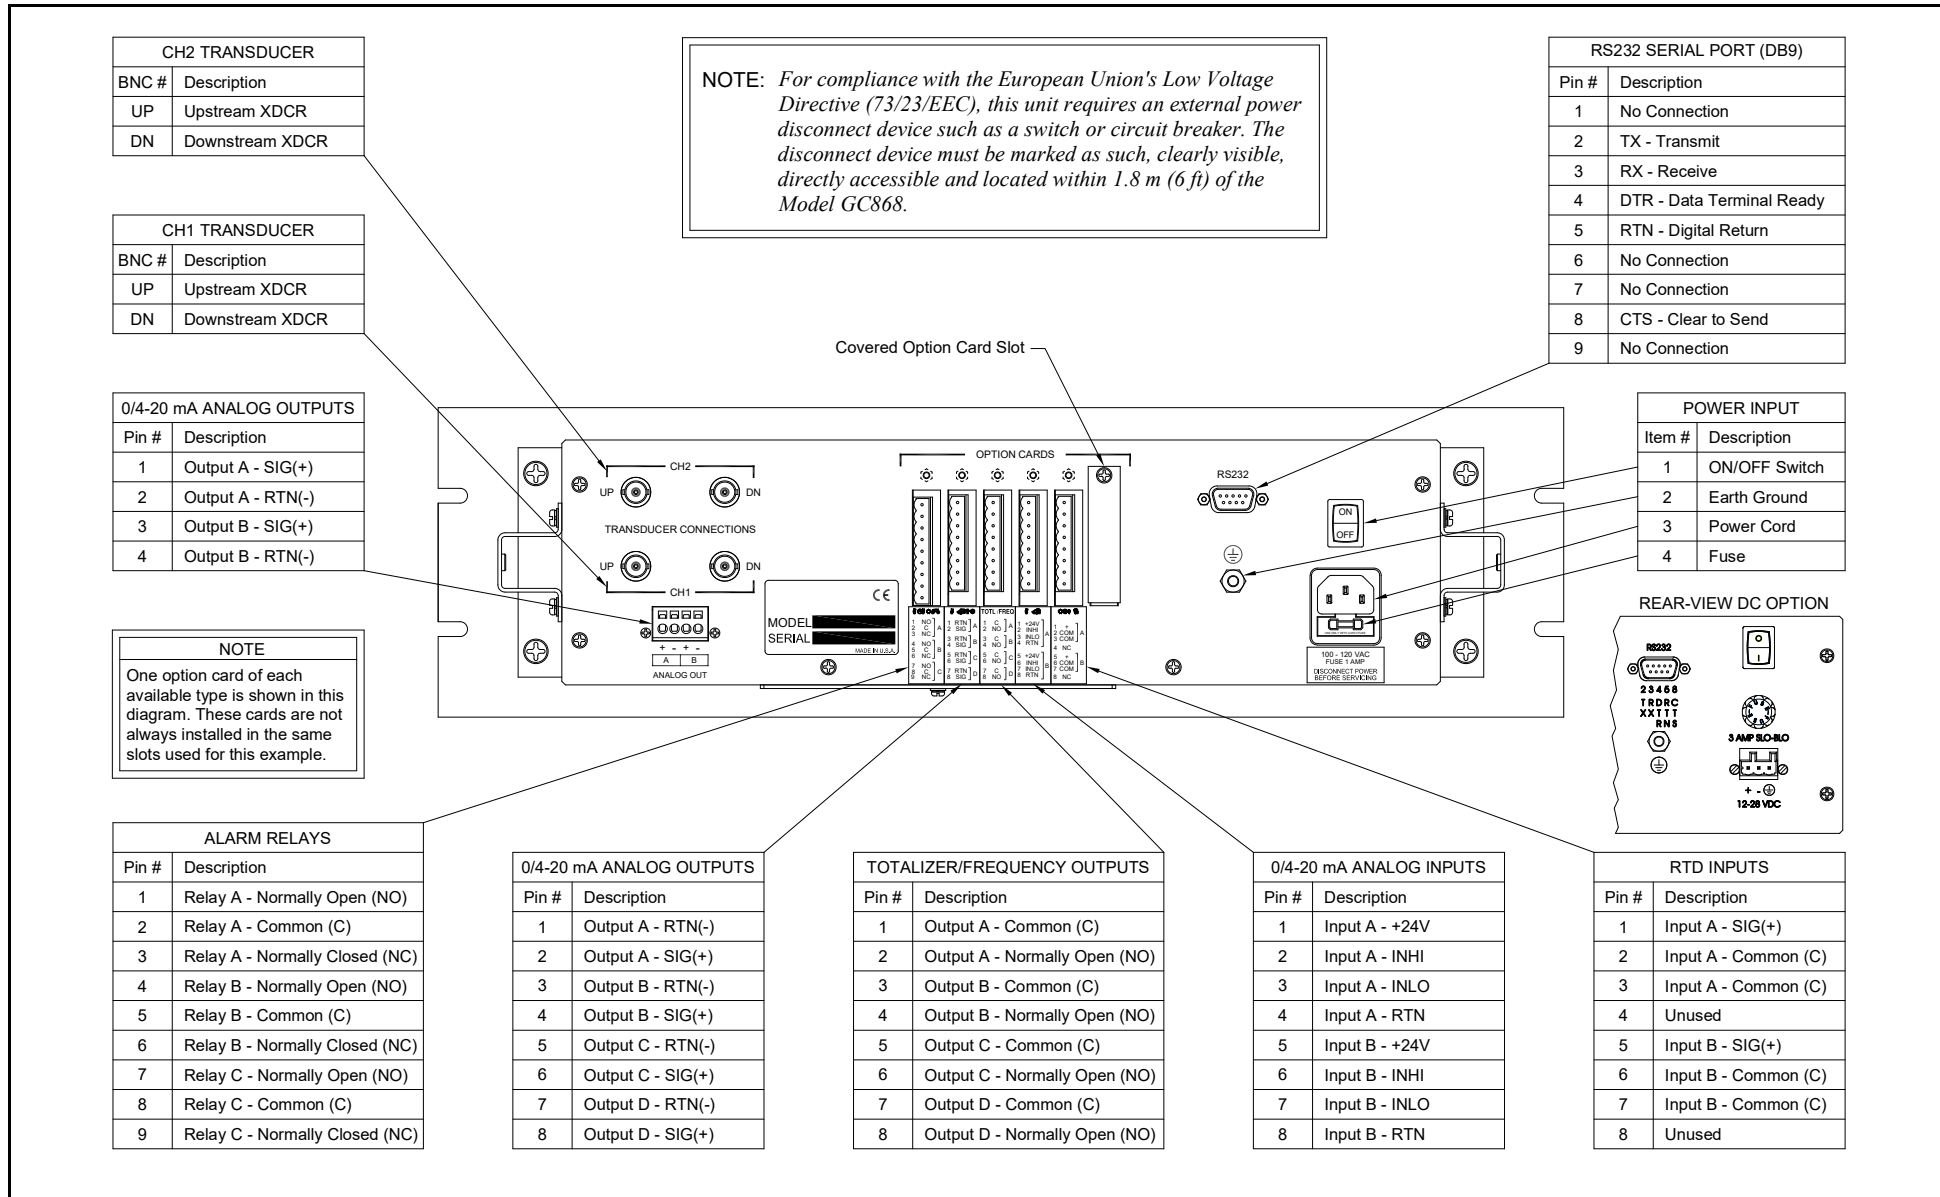

Figure C-2: Model GC868 Rack Mount Enclosure - Wiring Diagram
The rack mount Model GC868 requires exactly the same electrical connections as the standard version. However, the locations and type of connectors used for the various components are different. Refer to Figure C-2 on page C-4 and complete the following steps:
- a. Purchase or prepare a suitable serial cable. This cable should have a standard female DB9 connector, wired as shown in Figure C-2 on page C-4, for connection to the rear panel of the Model GC868. The other end should be as required for the external device.
5. Wire any installed *option cards* using the same procedures described in Chapter 1, *Installation*, of this manual and the pin # assignments shown in Figure C-2 on page C-4.